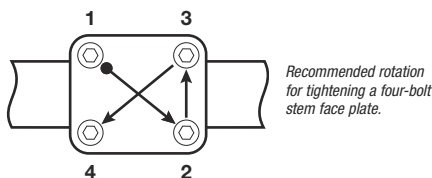

FIGURE 1
- Using a torque wrench with an appropriate hex key, tighten the face plate bolts, in one-turn increments and in rotation, to the torque specified on the clamp surface of the stem. For four-bolt clamps, use a cross pattern tightening sequence. For two-bolt clamps, alternately tighten each bolt one turn at a time (see Figure 1).